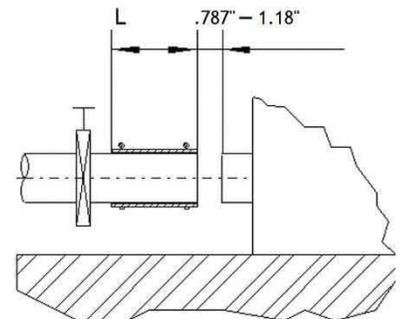

FIGURE-2.2
- Insert the flex connectors and relevant hose clamps on the terminal pipes as indicated in Figure-2.2.
- Position the package discharge pipe at the distance indicated in Figure-2.2.